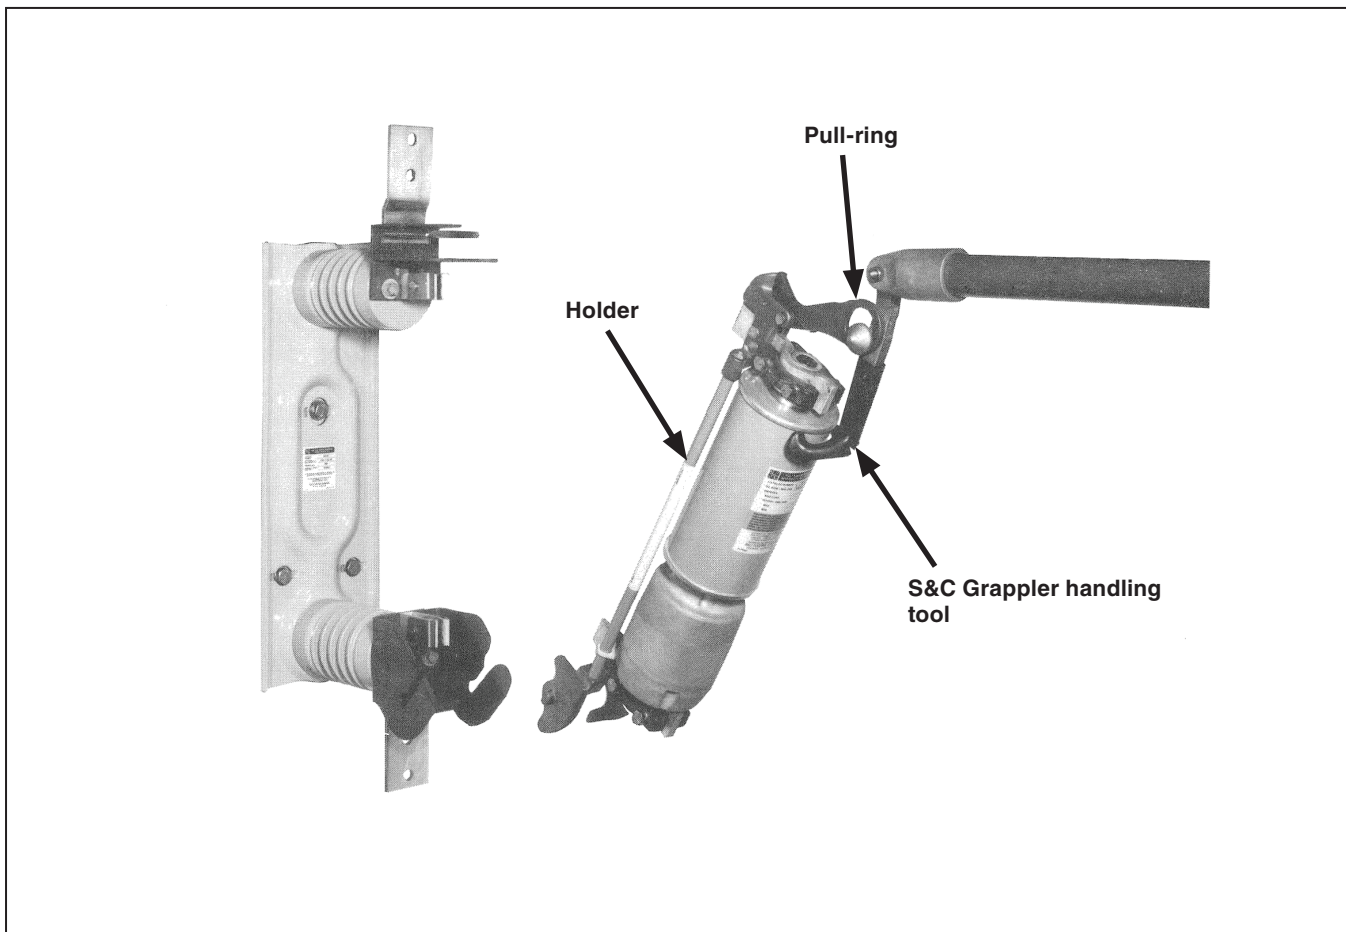

Figure 2. Installing (or removing) the holder using the S&C Grappler Handling Tool.
A universal pole● equipped with an S&C Grappler™ Handling Tool■ or an S&C Extra-Large Clamp▲ can be used to install holders in mountings rated 4.16 kV and 13.8 kV. See Figure 2. Holders for fuses rated 25 kV should be installed by hand, provided the mounting has been de-energized and properly grounded in accordance with local operating practices.
STEP 1. Attach the Grappler tool to the universal pole at an angle of approximately 90 degrees relative to the center line of the pole, as shown in Figure 2 on page 6. However, because the most advantageous positioning for the Grappler tool depends on the elevation of the fuse mounting relative to the operator, the handling tool should be adjusted as required to accommodate conditions.
- (b) Position the Grappler tool cone in the pull-ring of the holder, as shown in Figure 2 on page 6.
Attach the Grappler tool to the universal pole at an angle of approximately 90 degrees relative to the center line of the pole, as shown in Figure 2 on page 6. However, because the most advantageous positioning for the Grappler tool depends on the elevation of the fuse mounting relative to the operator, the handling tool should be adjusted as required to accommodate conditions:
- Position the Grappler tool cone in the pull-ring of the holder, as shown in Figure 2 on page 6.